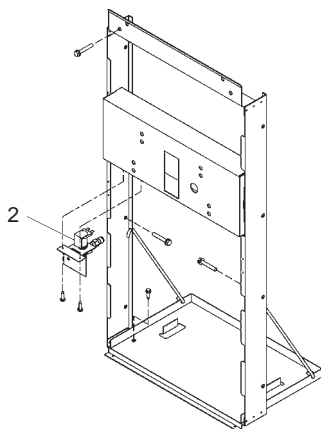

FIG. 3
3. Attach solenoid valve assy to the underside of cross member of mounting frame, on dual station fountain solenoid valve assy mounts to frame with chiller. See Fig 3.